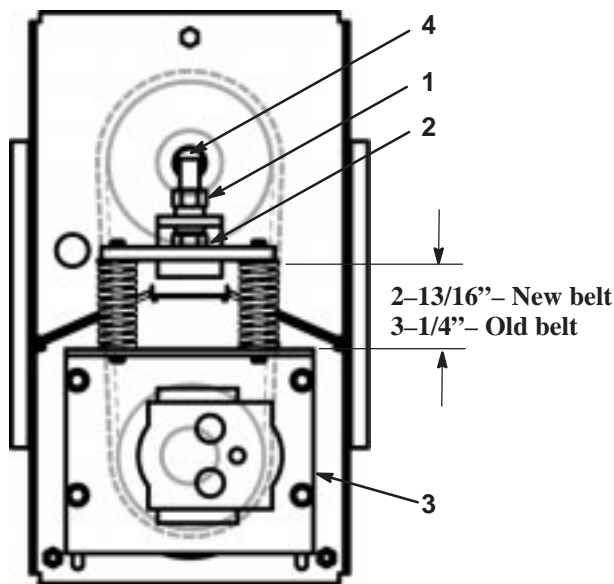

Figure 63
3. Loosen jam nut and relieve tension on springs with tensioner bolt (Fig. 63).
4. Loosen (4) capscrews securing slide plate to motor mount (Fig. 63).
5. Tighten tensioner bolt until springs are compressed to dimension shown in figure 63.
6. Tighten jam nut securing adjustment (Fig. 63).
7. Tighten (4) capscrews securing slide plate to motor mount (Fig. 63).
9. Tighten tensioner bolt until springs are compressed to dimension shown in figure 63.
10. Tighten jam nut securing adjustment (Fig. 63).
11. Tighten (4) capscrews securing slide plate to motor mount (Fig. 63).